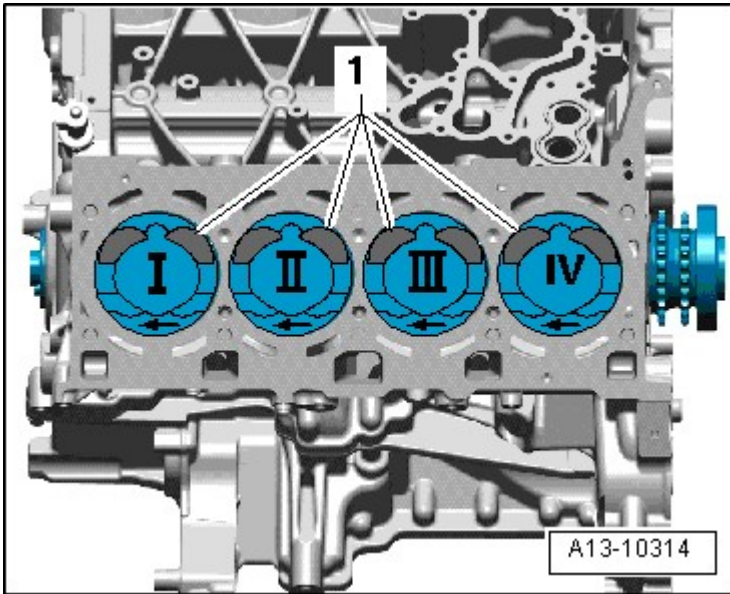

Fig. 19: Piston Installation Position
- Installation position of pistons, refer to **Fig. 19**